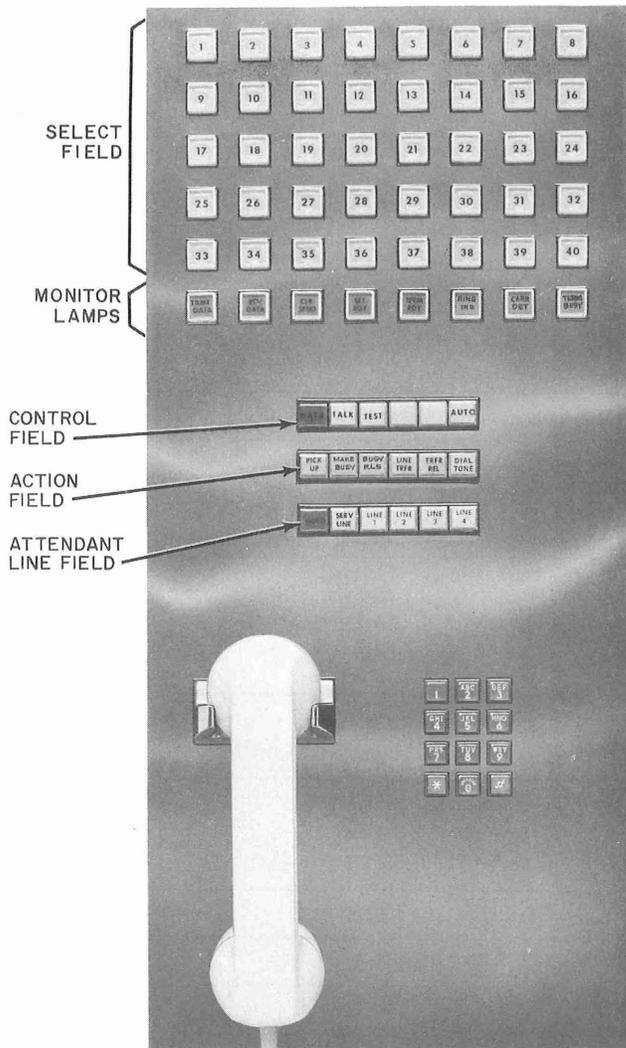

Fig. 9—Data Auxiliary Set 804J44
2.27 The DAS 804J-type (Fig. 9) is available in four types. DAS 804J1 and 804J3 are provided with a rotary dial (9C-58), and DAS 804J2 and 804J4 are provided with a TOUCH-TONE pad (35A3A). In addition, DAS 804J3 and 804J4 are equipped with a DIAL TONE key in the *action field* for manual origination of calls on telephone lines equipped for ground-start operation. Other than the above differences, all other equipment components are the same for the four types.
4.02 The *select field* (Fig. 9) lamps of DAS 804J-type may be used to check the status of each data set. Table D summarizes the data set status and the lamp indications for each status.